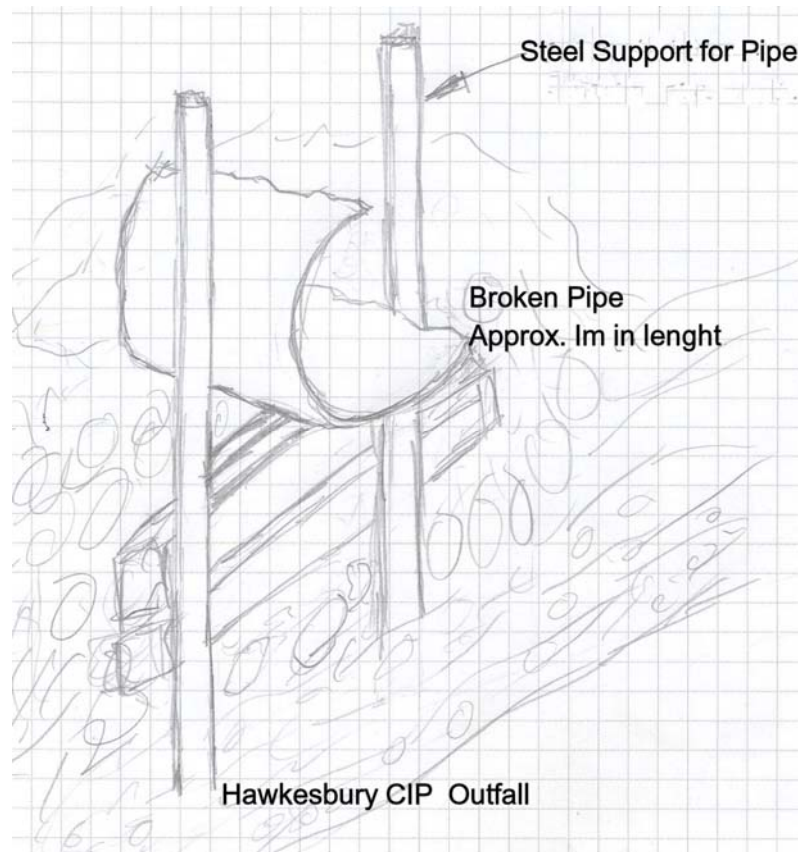

Fig.1
- Diver located end of pipe. A 1m long section of broken pipe on a saddle support is the only evidence of the end of the outfall. Diver could not locate pipe coming out of berm. It would appear the outfall pipe has completely failed. The berm has collapsed and/or covered the pipe completely. Depth of water at this location is approx. 16 ft. The natural bottom consisted of small cobble and sand with the back fill consisting of larger stone. (See Fig. 1)